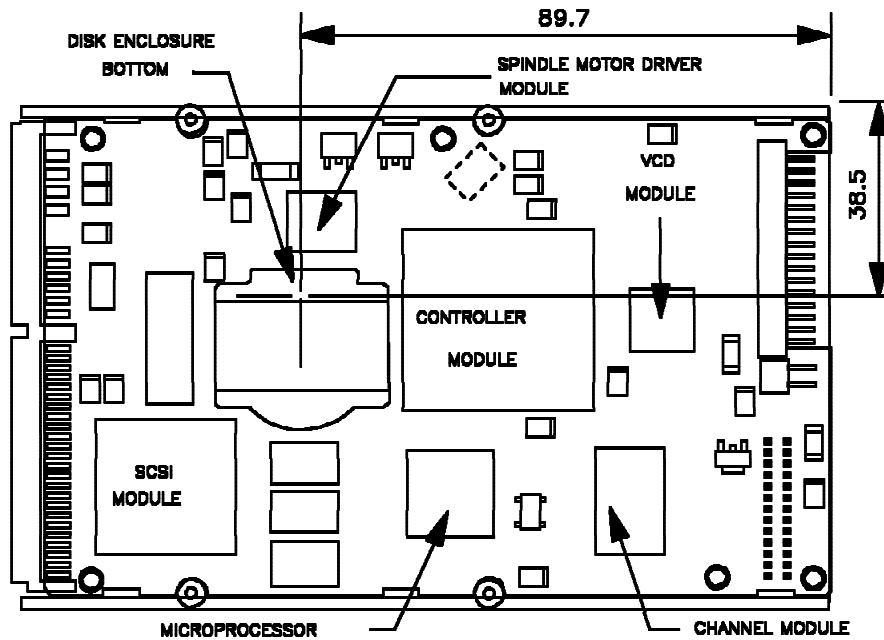
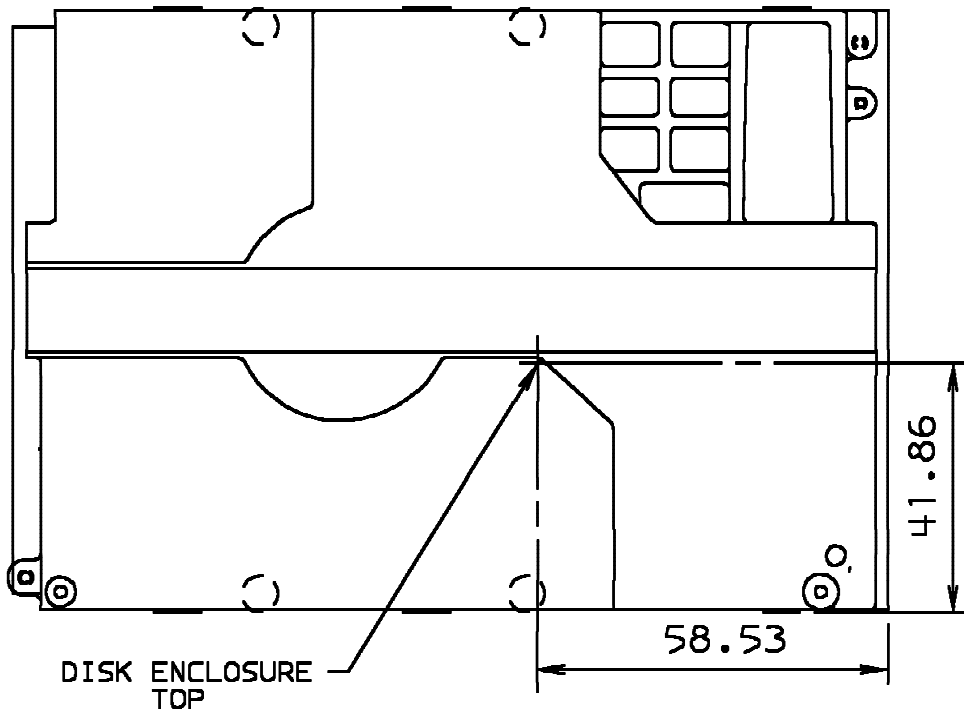

Figure 34. Temperature Measurement Points (bottom view)
Figure 35. Temperature Measurement Points (top view)
**Note:** Figure 35 on page 72 defines where measurements should be made to determine the top disk enclosure temperature during drive operation. Figure 34 on page 71 defines the modules that are located on the bottom side of the card and the measurement location on the bottom of the disk enclosure.
**Thermal** The system must supply adequate cooling and air flow to maintain casting and module temperature listed in Table 24 on page 71. Operating Limits in accordance with the Temperature measurement points shown Figure 35 on page 72. The system must demonstrate sufficient cooling to operate below the recommended temperatures for any given location that the drive may be installed within the system.